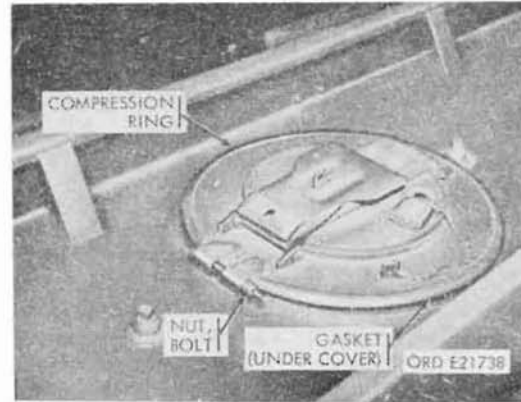

Figure 303. M49, M49C and M49CA1 manhole and filler covers - later-production models
- (1) Remove nut and bolt on compression ring securing manhole cover to tank body (fig. 303).
- (2) Remove compression ring and lift manhole cover from body. Discard gasket.